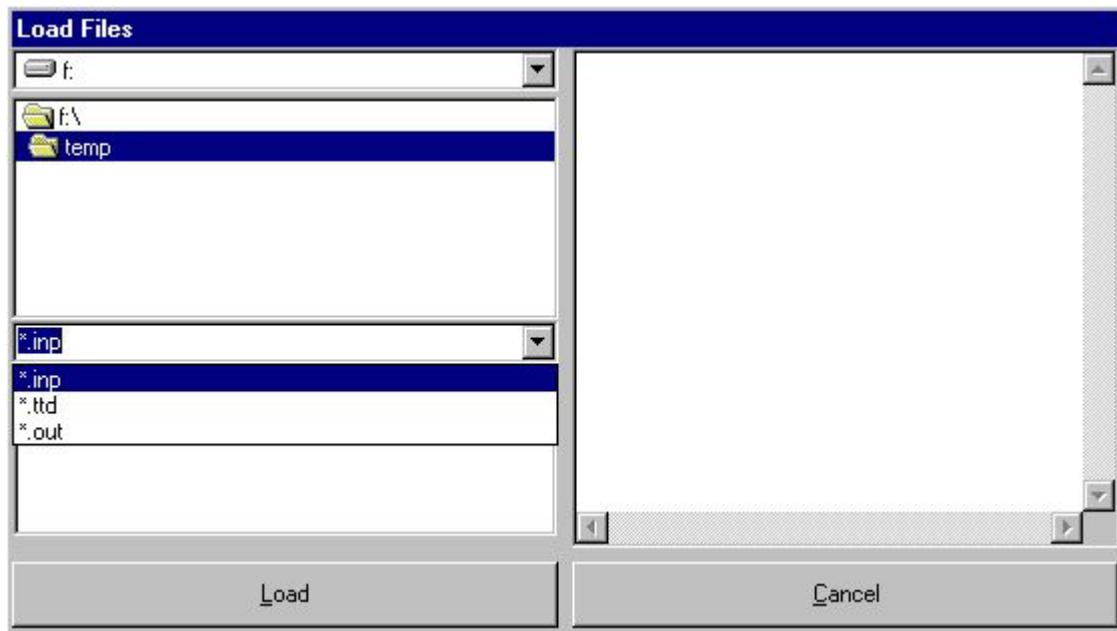

Figure 3.4. Load File
2. Find and choose the saved file (Figure 3.4).